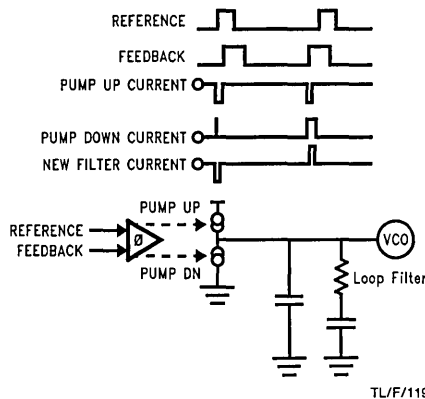

FIGURE 3-2. Phase Comparator/Charge Pump
- Figure 3-2 Phase Comparator Charge/Pump
The phase comparator compares the difference in clock edges between the internal N and R counter outputs. The difference results as either a charge source (pump-up), or charge sink (pump-down). The amount of charge is directly proportional to the phase difference (see Figure 3-2). The phase comparator controls the VCO by comparing the phase of a derived signal from a known accurate reference source such as a crystal or an external reference signal. In genlocking situations, the reference source may be a constant stream of pulses such as an external HSYNC.